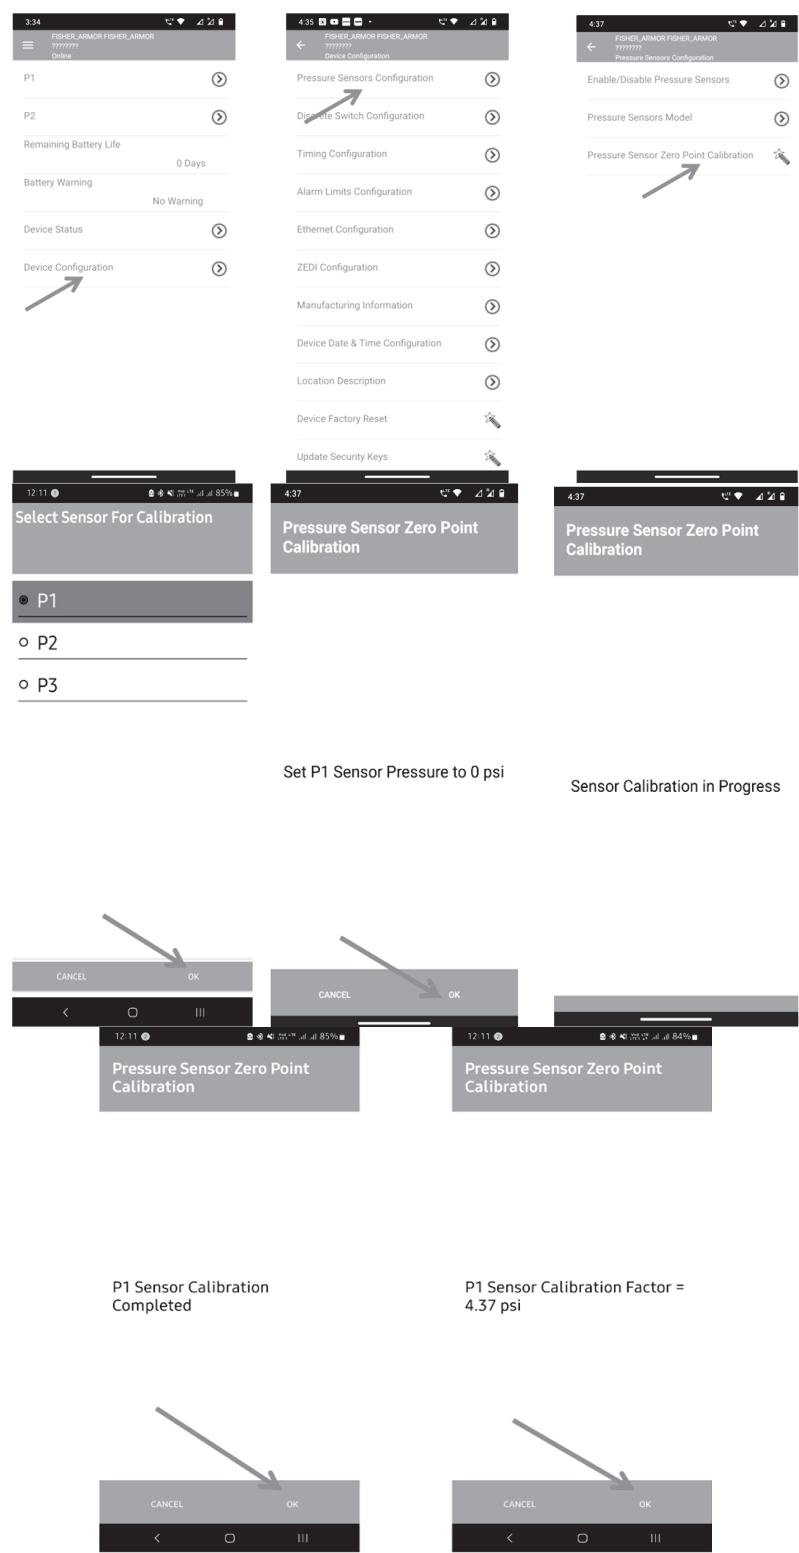

Figure 4. Pressure Sensor Zero-Offset Adjustment
Pressure Sensor Zero-Offset Adjustment (Figure 4)
5. Select the "Device Configuration" option as shown in Figure 4.